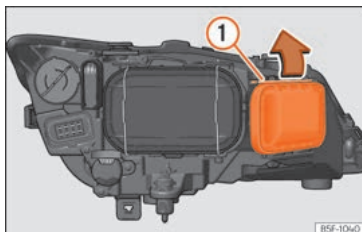

Fig. 111 Main beam headlight bulb.
- Move the loop » **Fig. 111 ①** in the direction of the arrow and remove the cover.